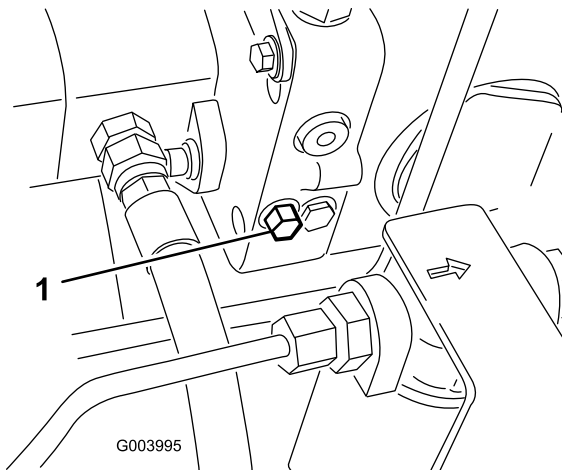

Figure 41
1. The bypass valve is located on the left side of the hydrostat (Figure 41). Rotate the bolt 1-1/2 turns to open and allow oil to bypass internally. Because fluid is bypassed, the machine can be moved slowly without damaging the transmission.